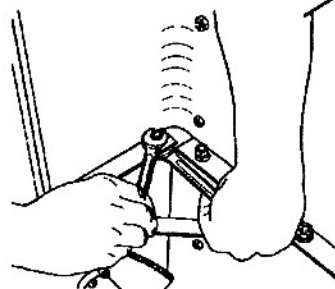

Fig. 14
23. (You may need a helper for this step.) Starting in the corner with the electrical box, look at the exterior of the machine. Move the end panel even with the machine base along its entire length. Use two 1/2" wrenches (or 1/2" wrench and ratchet wrench) to securely tighten all six nuts (26) attaching the end panel to the base, as demonstrated in Fig. 14.